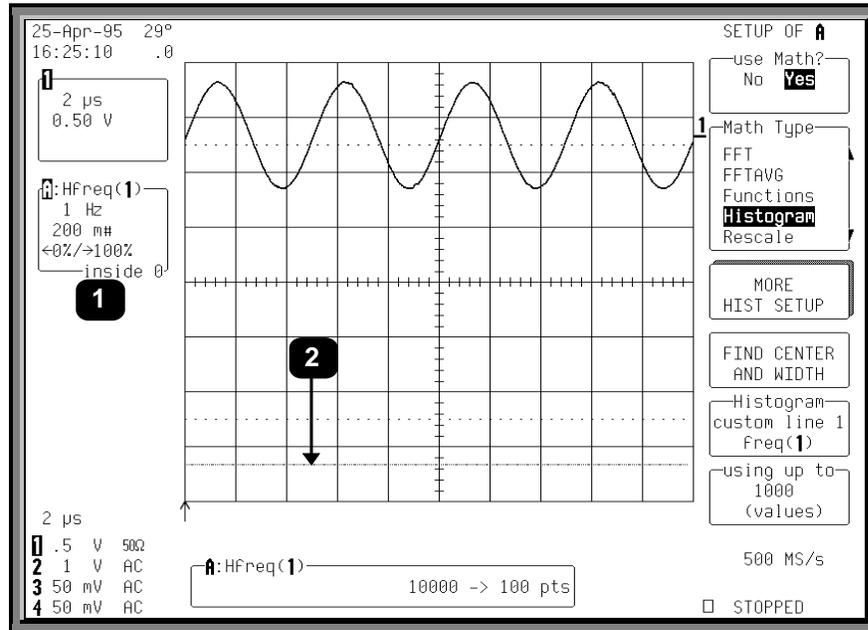

Figure 2.2
5. Now, press **A** to display the histogram, for a display similar to that shown in Figure 2.2.